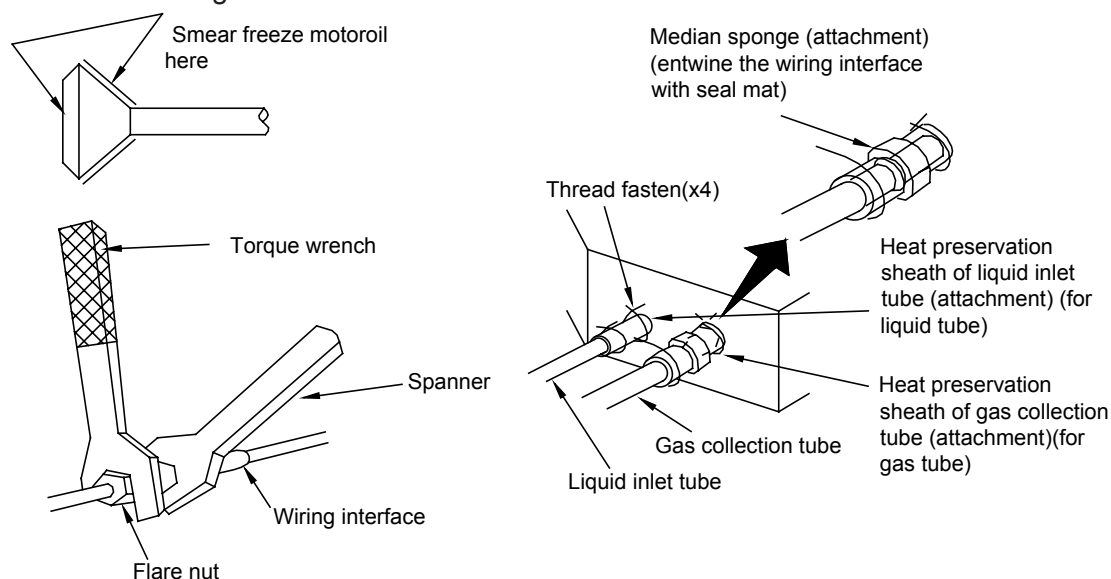

Fig. 4
- ◆ When connecting the pipe to the unit or backout it from the unit, please do use both the spanner and the torque wrench, as shown in Fig.4.
- ◆ Examine the connection pipe to see if it leaks, then take the treatment of heat insulation, as shown in Fig. 4.